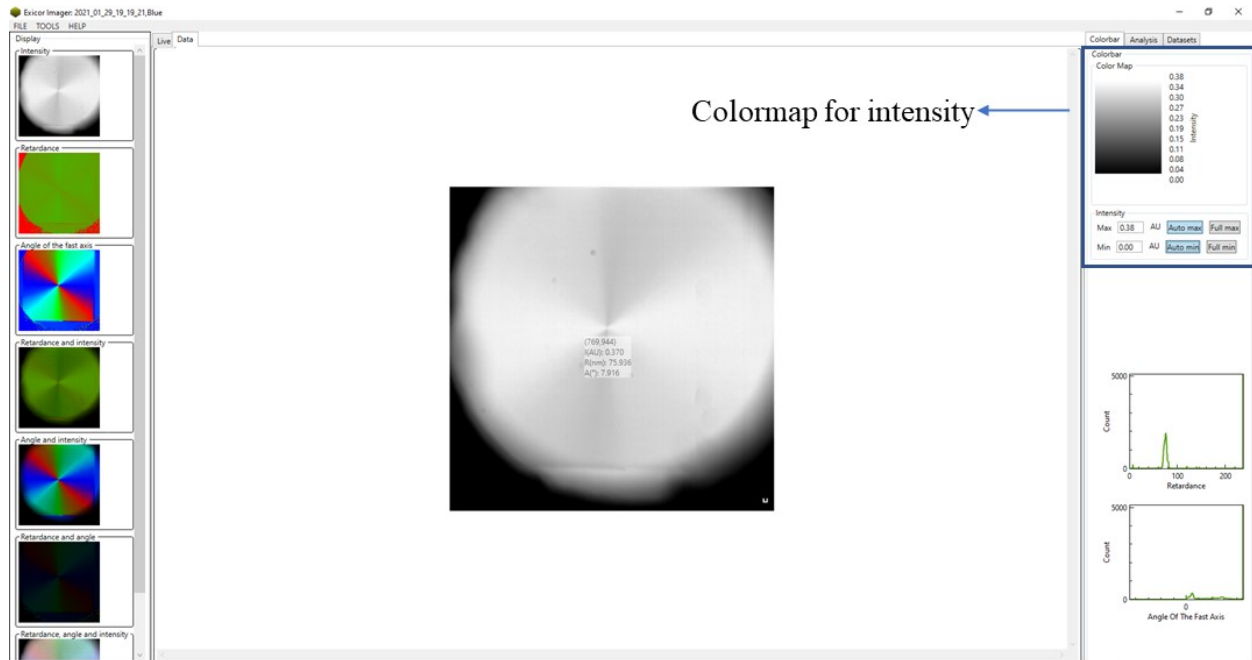

Fig. 8 Colormap for intensity
11. To see the Colorbar corresponding to different images, select an image → click the Colorbar tab on the right. For example, a colormap for intensity is shown in Fig. 8 below.